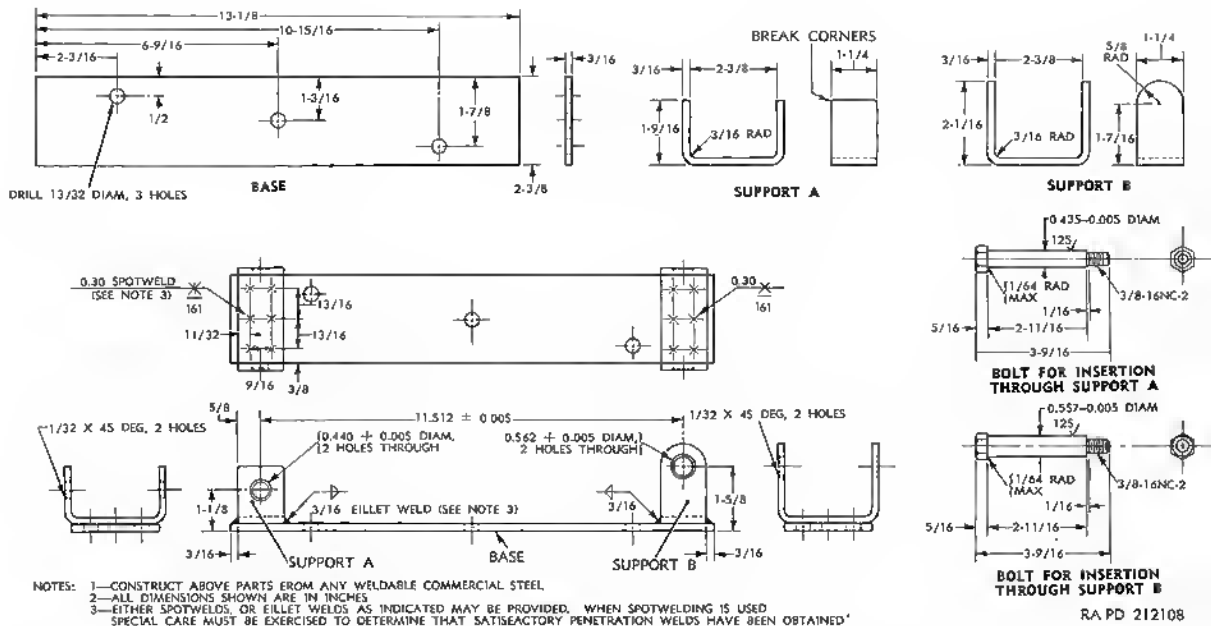

Figure 66. Cal. .30 machine gun M37 (tank)—mounting bracket details.
- (1) Fabricate a steel base, and two steel supports and weld together to form a mounting bracket for the gun, using dimensions and details shown in figure 66.